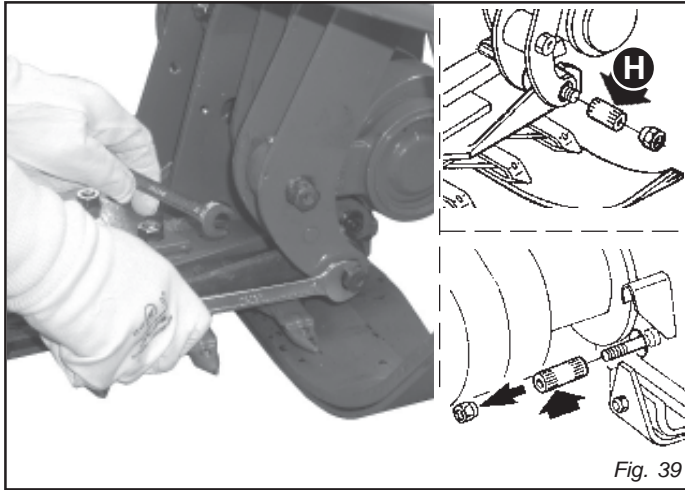
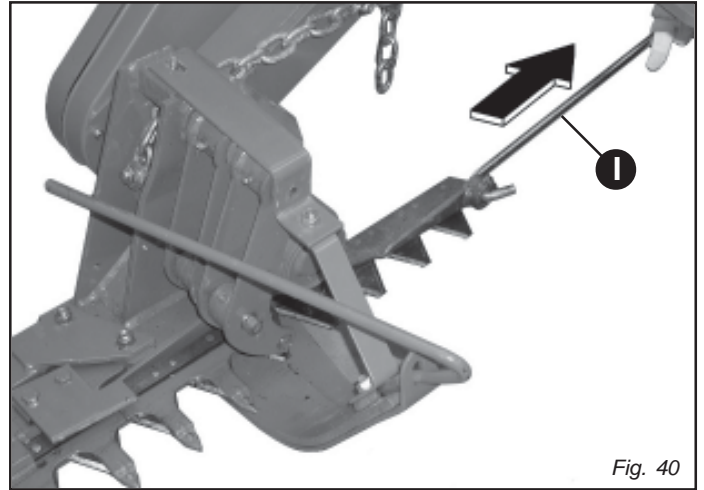

Fig. 39
Fig. 40
- Remove the expansion pin (H, Fig. 39) and pull out the section-holding bar (Fig. 40) with the hooking tie rod (I, Fig. 40).
- Remove the expansion pin (H, Fig. 39) and slide out the section-holding bar (Fig. 40).